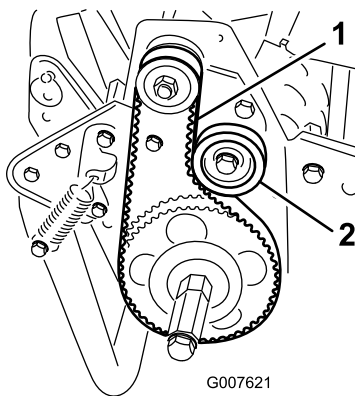

Figure 27
2. Check the tension by pressing the belt at mid span of the pulleys (Figure 27) with 3 to 5 lb (1.5 to 2.3 kg) of force. The belt should deflect 1/4 inch (0.63 cm).
- A. Loosen the idler pulley mounting nut and pivot the idler pulley clockwise against the backside of the belt until the desired belt tension is attained (Figure 27).